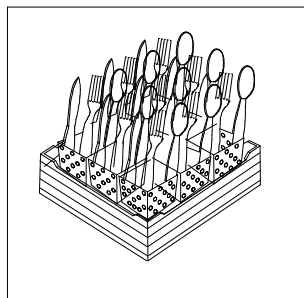

Fig. 10
- Put cutlery in the cutlery baskets handles down. Mix spoons with knives and forks. (Fig. 10)